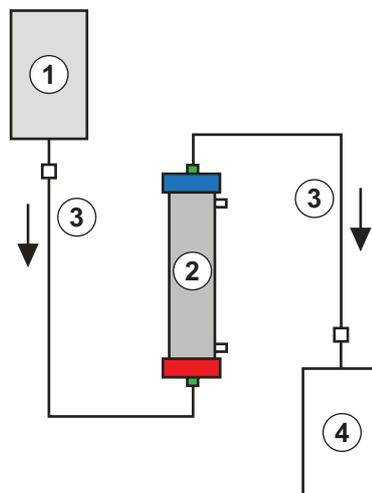

Fig. 10-11 Set-up for ultrafilter rinsing
Materials: See legend to Fig. 10-11
2. Attach the second connection line and the collection bag as shown in Fig. 10-11 with the blue, plasma-side filter opening.